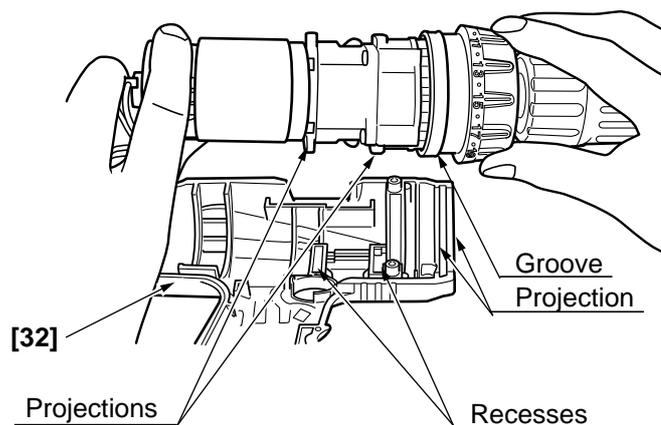

Fig. 13
(b) Install the assembly reassembled in step (3) into Housing (A) [32]. Note that the projections on the Front Case [9] and the Motor Spacer [27] are engaged in the recesses in Housing (A) [32], and the projection on Housing (A) [32] is engaged in the groove of the Cap [4]. (See Fig. 13.)